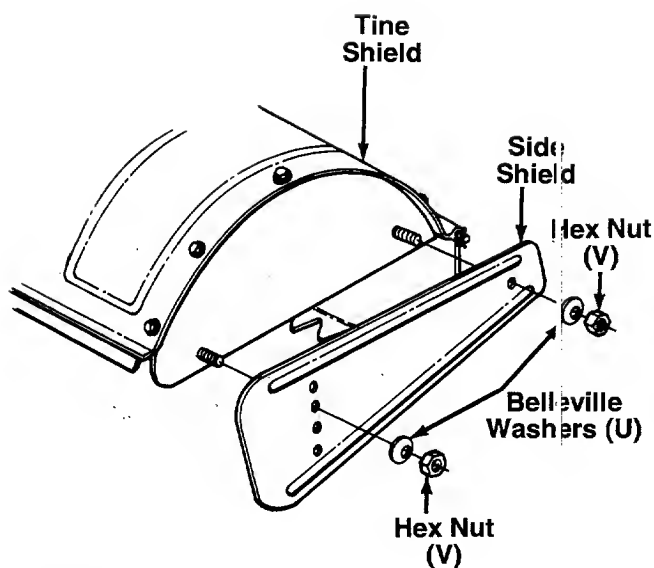

FIGURE 16.
32. Assemble the side shields to the tine shield using bellville washers (U) (cupped side against the side shields) and hex nuts (V) as shown in figure 16. The side shields will be adjusted up or down as the depth bar is adjusted. Refer to "How to Use Your Tiller" on page 10.